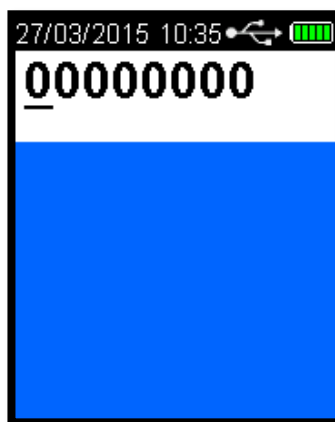

Figure 78 Password Set-up Code 00005000
- With the screen displaying press to test, Press the UP and Down buttons simultaneously for approximately five seconds. The menu screen will be displayed during this process and then the password set-up code '00000000' will be displayed (Refer Figure 78).